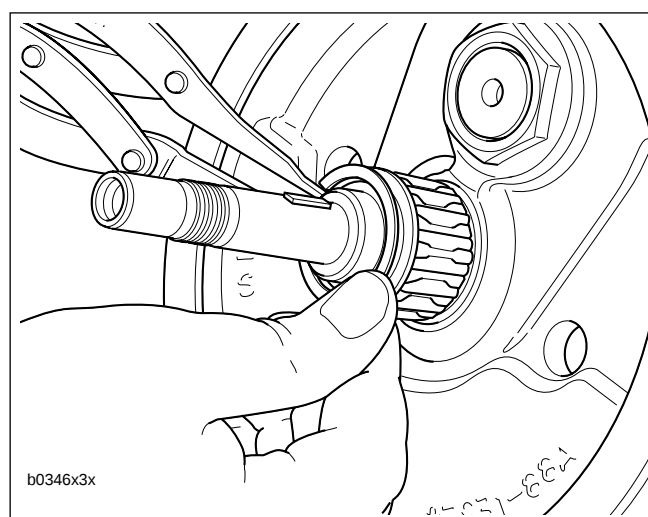

Figure 3-94. Pinion Shaft Bearing
12. See Figure 3-94. Install pinion shaft bearing.